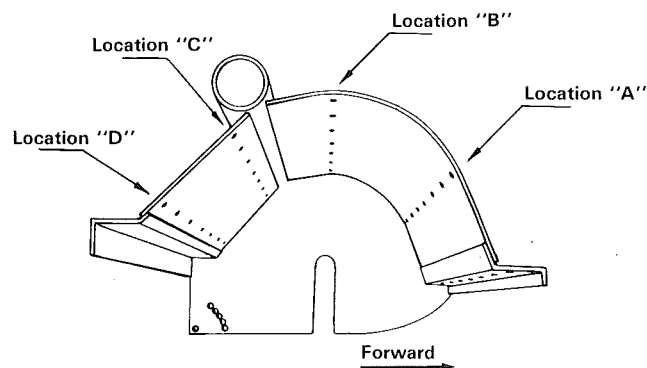
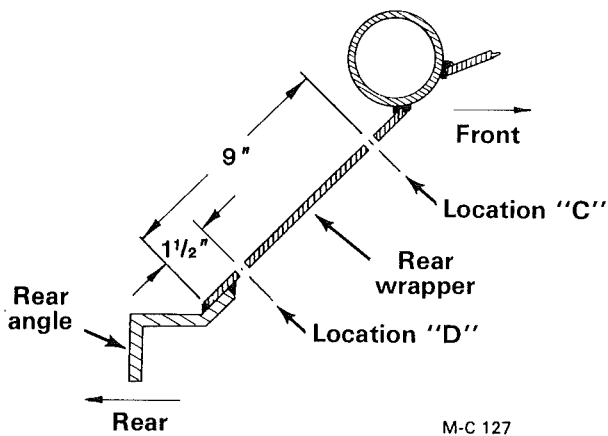
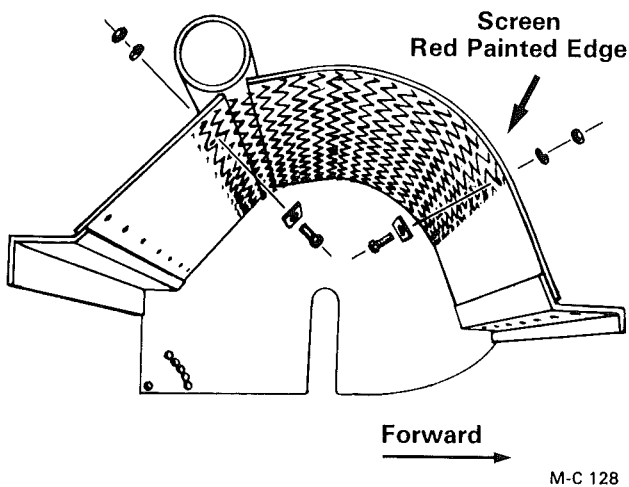

Figure 10
Figure 11
Figure 12
- Refer to Figure 10 to locate rows of holes at "A, B, C and D". All of the mowers have pilot holes at locations "A and B". Some mowers also have pilot holes at location "D". None of the mowers have pilot holes at location "C". Holes at locations "A and C" will be used to mount the shredding screen.
3. To locate holes at location "C", measure 9 inches up from the edge of the rear wrapper (where it is welded to the rear angle) see Figure 11. Drill a row of 17/32 inch holes to coincide with the holes in location "A". Holes are on 12 inch centers starting 6 inches from the end.
4. Install the screen with the edge **Painted Red** forward, as shown in Figure 12, to prevent clogging or possible damage to the screen.
5. Fasten the screen in place using the holes drilled in rows at locations "A & C", see Figure 10. Use 1/2-13 x 2" (Grade 5) hex-head capscrews, 1/4" x 2" square washers, lockwashers and hex-nuts. The capscrews
and square washers go to the inside, see Figure 12. Be sure the screen fits snug against the mower wrapper at location "B", see Figure 10, before fastening the screen securely into place.
1. If your mower has pilot holes at location "D", see Figure 10, drill them out with a 17/32 inch drill. If your mower does not have pilot holes at location "D", measure 1½ inches up from the edge of the rear wrapper (where it is welded to the rear angle). Refer to Figure 11.
4. The retarder bar mounts at location "B", see Figure 10. Drill out the pilot holes with a 17/32 inch drill. Mount the retarder bar with ½-13 x 1¼" (Grade 5) hex-head capscrews, lockwashers and hex nuts as shown in Figure 14.